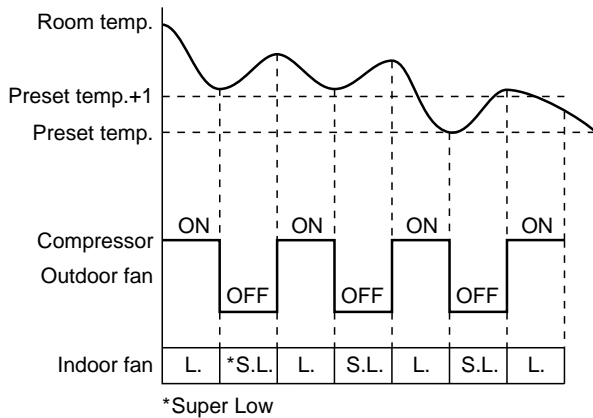

Fig. 7-3-7
- (2) The microprocessor turns the compressor on and off at the regular intervals (4 to 6 minutes). While the compressor is turning off, the indoor fan motor operates in the SUPER LOW position. The pattern of operation depending on the relation between room temperature and preset temperatures is shown in Fig. 7-3-7.